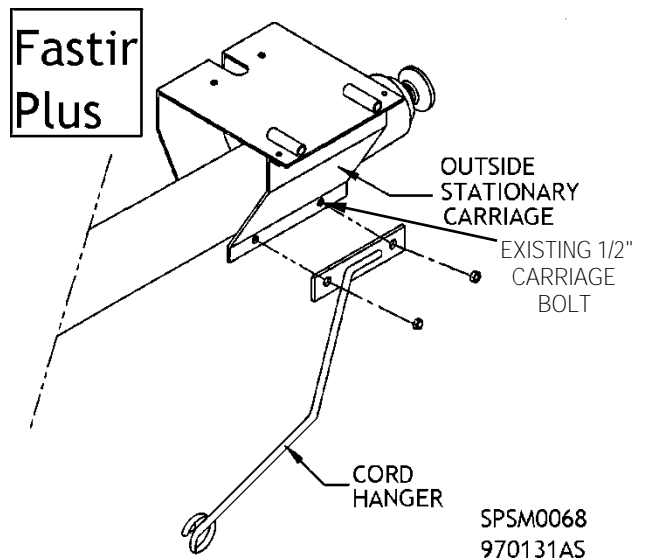

Fig. 24 – Attaching cord hanger on Fastir Plus
- 46.1 **Fastir Plus Only:** Bolt cord hanger to bottom plate of stationary outside carriage using existing 1/2" carriage tightening bolts (double nut). See Fig. 24.